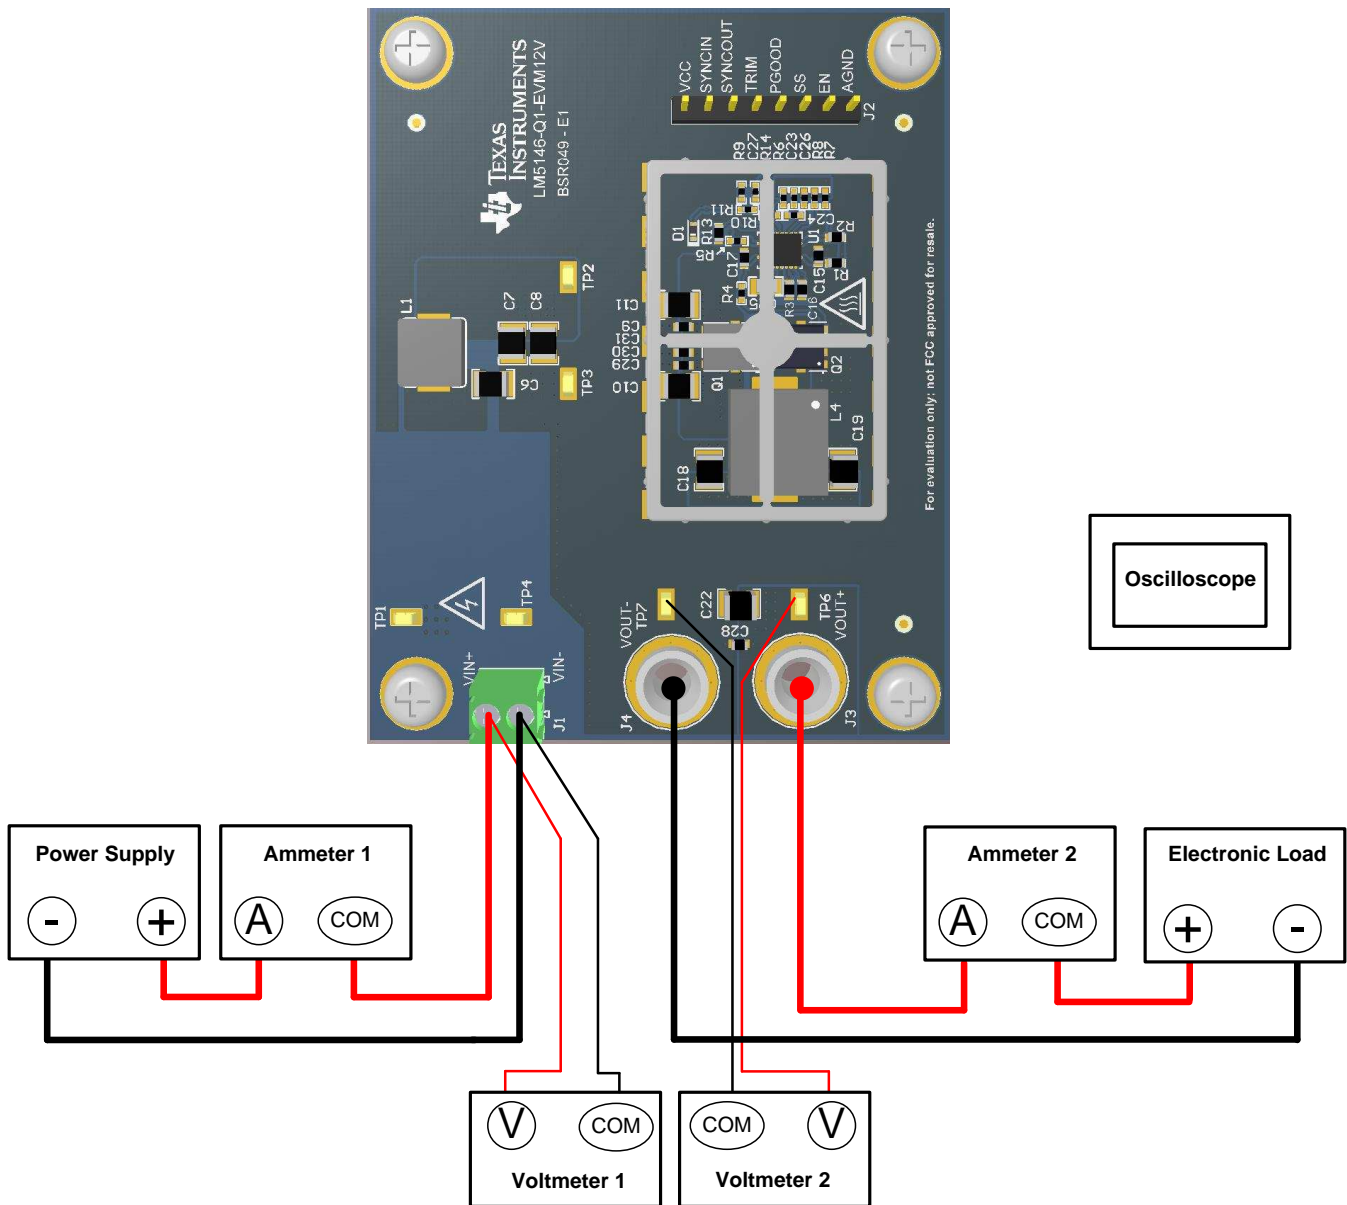

Figure 3. EVM Test Setup
Referencing the EVM connections described in Table 2, the recommended test setup to evaluate the LM5146-Q1-EVM12V is shown in Figure 3. Working at an ESD-protected workstation, make sure that any wrist straps, boot straps, or mats are connected and referencing the user to earth ground before power is applied to the EVM.
- Prior to connecting the DC input source, set the current limit of the input supply to 0.1 A maximum. Ensure the input source is initially set to 0 V and connected to the VIN+ and VIN– connection points as shown in Figure 3. An additional input bulk capacitor is recommended to provide damping if long input lines are used.